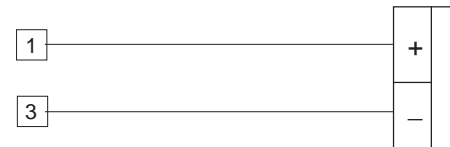

Fig. 5.4
- a) Connect the instrument to the calibrator as shown in Fig. 5.4.
- Set 10,000 V on the calibrator (see Fig. 5.4).